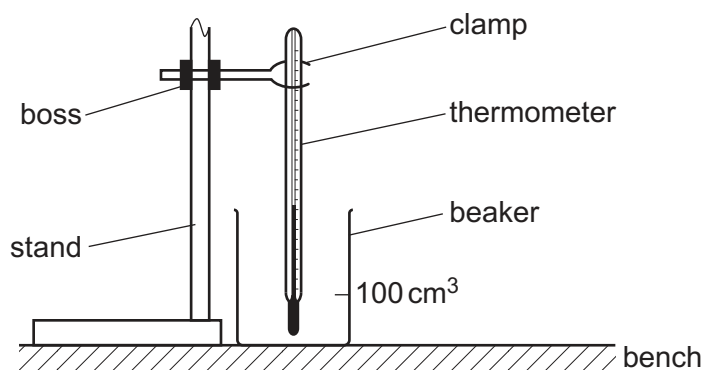

Fig. 2.1
4. The thermometer must be placed in the clamp and the height of the boss on the stand must be adjusted so that the bulb of the thermometer is approximately 1 cm above the bottom of the beaker as shown in Fig. 2.1.
The supervisor must remove any hot water from the beaker and ensure the apparatus is in the configuration shown in Fig. 2.1.